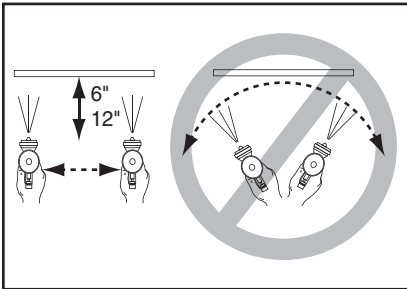

Figure 5. Spray technique.
9. Keep the gun tip perpendicular, parallel and 6-12" from the work at all times when spraying as shown in **Figure 5**. Do not allow your wrist to bend. This will cause the gun to arc across the surface and distribute the material unevenly, possibly creating sags and dry spots.